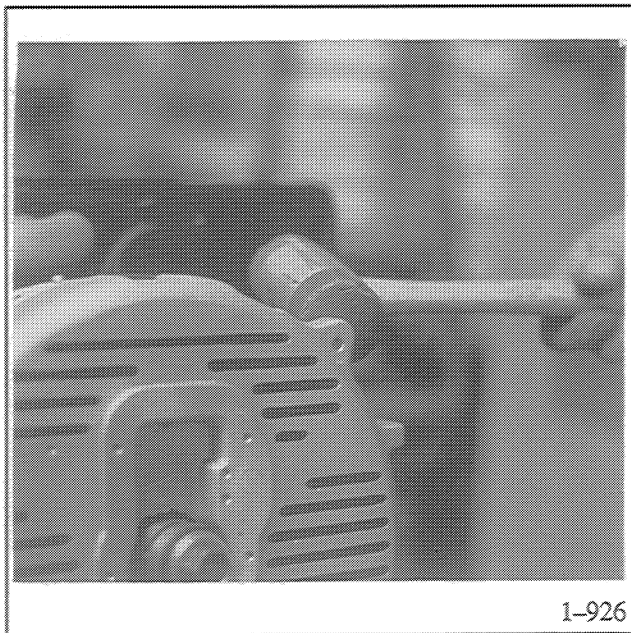

Figure 8-23. Removing End Bracket
28. Use a rubber (soft faced) hammer to carefully remove end bracket from stator assembly. See Figure 8-23.